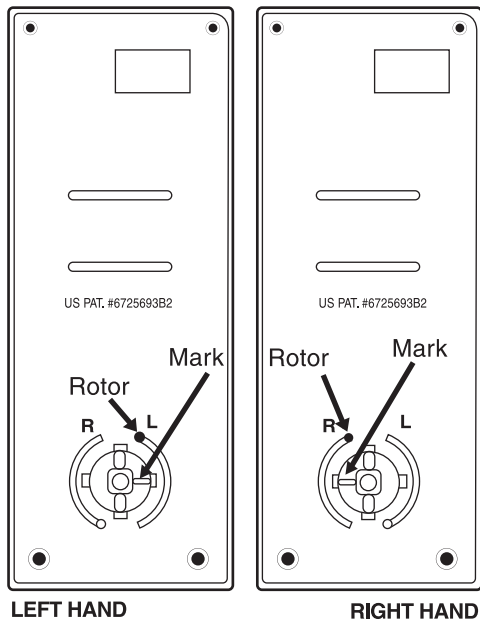

Figure 9
- Set the Rotor to correct position. R is for right hand and L is for left hand (Figure 9).